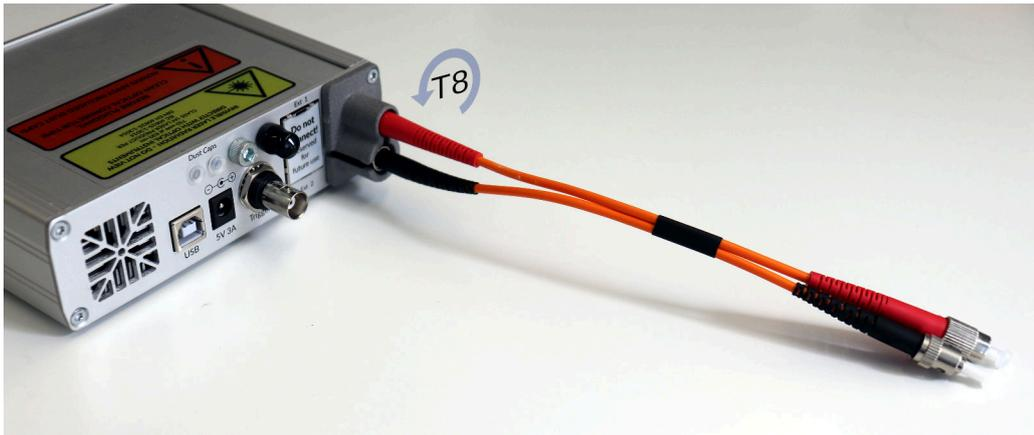

Figure 9: Rear view of Computer Interface with short fiber-optic cable fixed to its housing
- In case of a burn-in defect at the Computer Interface, experienced users may remove and replace the short orange fiber cable attached to the Computer Interface shown in Fig. 9. Please contact LUMILOOP for detailed instructions. Computer Interfaces without this short cable and associated cover can be refitted for improved system reliability. For older systems the sacrificial cable is attached directly to the Computer Interface. Please contact LUMILOOP support for more information.